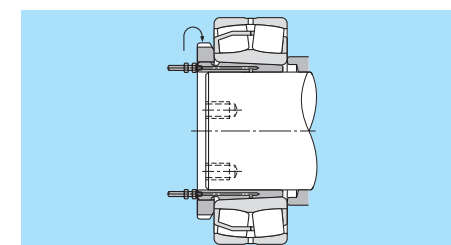

**Fig. 15.37** Bearing disassembly using oil pressure
**Fig. 15.37** shows the case where the bearing is removed by applying hydraulic pressure on